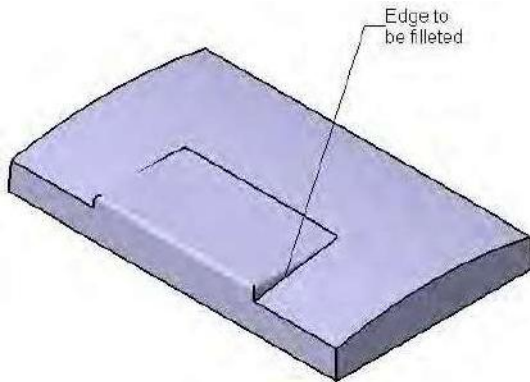

*Figure 5-94 Edges to be selected*
- d. Fillet the edges of the model, refer to Figures 5-94 through 5-99.
2. Select the edges shown in Figure 5-94 and set the value of the **Radius** spinner to **3**.